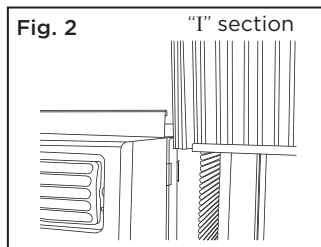

Fig. 2
- B. Slide the free and "I" section of the panel directly into the cabinet as shown in Fig. 2. Slide the panel down. Be sure to leave enough space to slip the top and bottom of the frame into the rails on the cabinet.